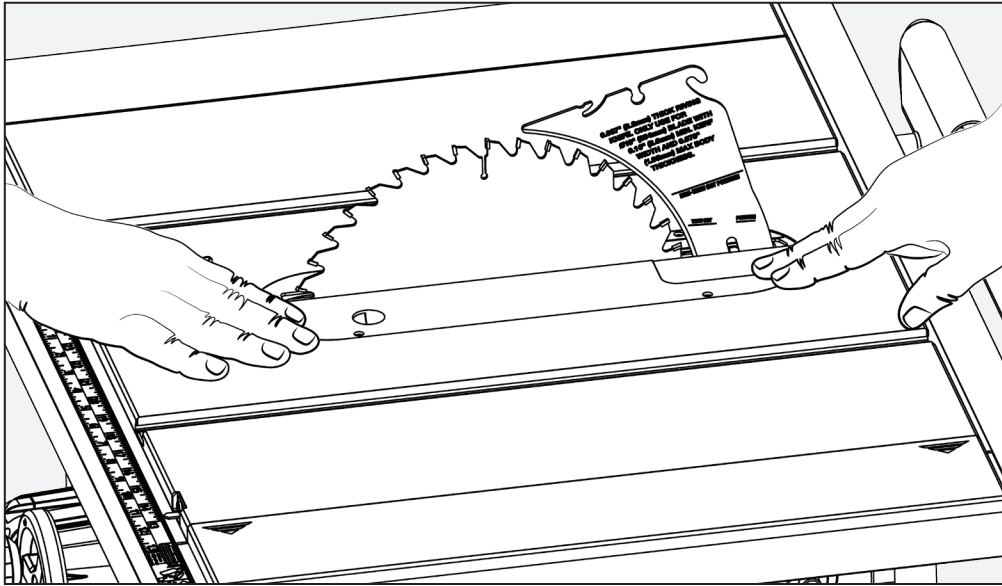

FIGURE 23
Level the throat plate to the table top using (4) flat head screws. See Figure 23 and 24. For more details about leveling throat plate, see page 29.